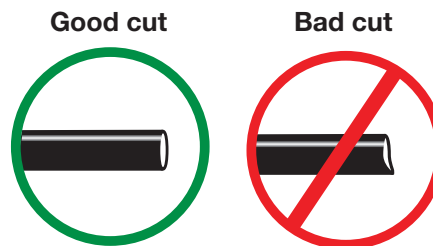

fig. E.2
1. Cut the air line in half. Make clean, square cuts with a razor blade or hose cutter (Fig. E.2). Do not use scissors or wire cutters.
- a. Check the air line connection by deflating the spring and removing the line by pulling the collar against the fitting and pulling firmly on the air line. Trim 1" off the end of the air line. Be sure the cut is clean and square (see Fig. E.2). Reinsert the air line into the push-to-connect fitting.